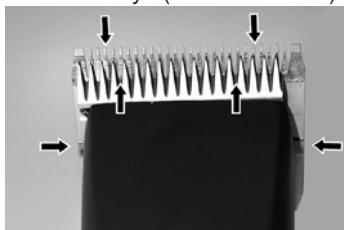

Fig. 13
To receive good clipping results and to increase the durability of the clipper and the clipperhead, it is necessary to apply a thin oil coat between top and bottom blade (Fig. 13).
- ▶ Lubricate the blades sufficiently during the clipping (at least every 15 minutes), so that they do not drain (Fig. 13).
The blades must be oiled before, during and after every use. When the blades of the clipper are leaving stripes or are running with reduced speed, this is a signal that oil is required. Place a few drops of oil ahead and laterally on the clipper blades (see arrows in Fig. 13). Wipe off the excessive oil with a smooth, dry cloth. Lubrication sprays do not have sufficient oil for a good lubrication, but serve for cooling the clipping blades. Immediately change damaged or crenated blades to avoid injuries.